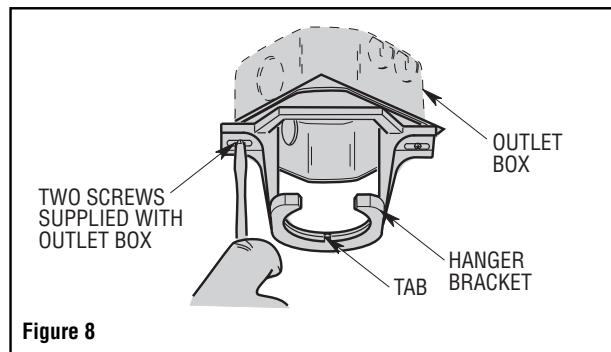
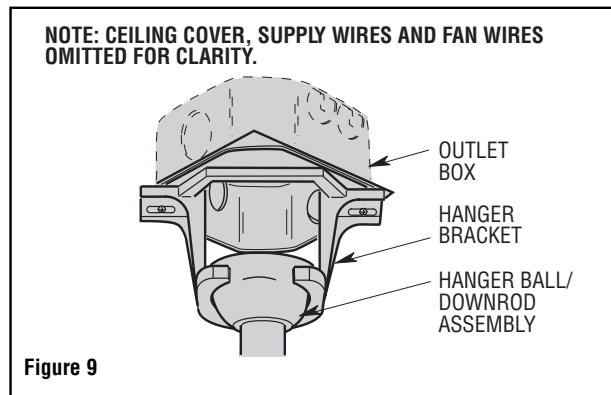

Figure 8
Figure 9
1. Securely attach the hanger bracket to the outlet box using the two screws supplied with the outlet box. (Figure 8.)
2. Carefully lift the fan and seat the hanger ball/downrod assembly on the hanger bracket that was just attached to the outlet box (Figure 9). Be sure the groove in the ball is lined up with tab on the hanger bracket (Figure 8).